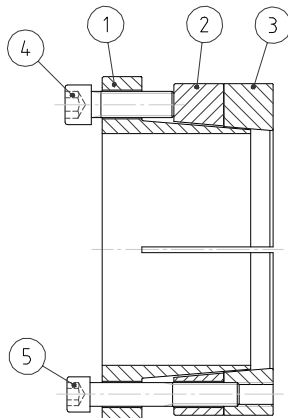

Fig. 1
2. Loosen all screws by minimum 2 turns and transfer at least 2 screws item [4] (larger size) to push-off threads in the collar item [1] in order to disengage tapers for easy installation of locking assembly (see fig. 1).
4. Loosen all screws item [5] and release collar item [3] by re-tightening all push-off screws (see fig. 1) in a crosswise pattern, not exceeding 1/4 turns for several passes.